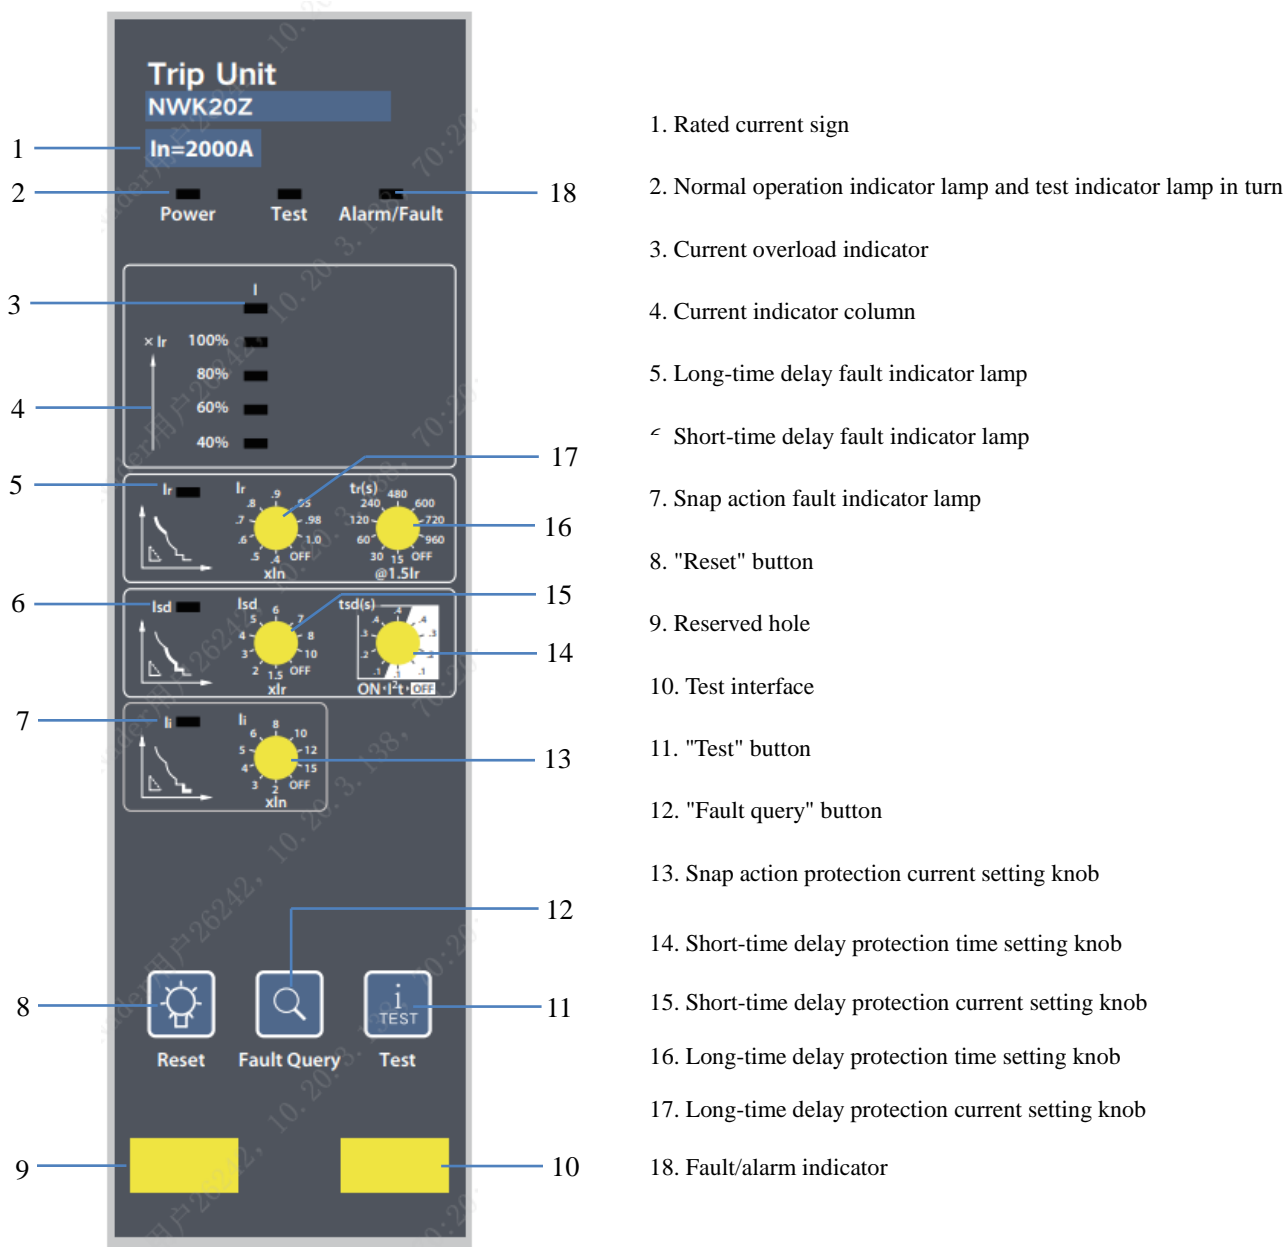

Figure 1
1) NWK20Z controller, as shown in Figure 1